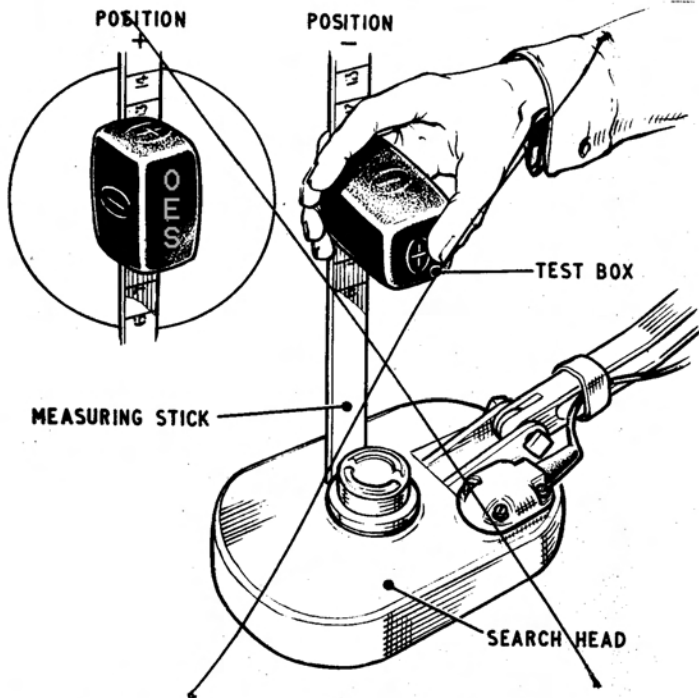

FIG 10 TEST BOX No.2 IN USE
- (1) Hold the Test Box at the top of the measuring stick as shown in Fig. 10, i.e. the measuring stick resting lightly on the face of the search-head by the side of the dust core cover and the side of the Test Box marked '-' facing upwards, with the longer axis of the oval enclosing the '-' sign parallel to the longer axis of the search-head.
- (2) Slowly lower the Test Box towards the search-head until the loud note in the phones just begins.
- (3) Note the measurement from the face of the search-head to the bottom of the Test Box.
- (4) Carry out instructions (1) to (3) with the side of the Test Box marked '+' facing upwards and with the longer axis of the oval enclosing the sign, parallel to the longer axis of the search-head (Fig. 10 inset).
- (5) If the detector is properly adjusted to Set-up NORM and is working satisfactorily, the measurements should be:-